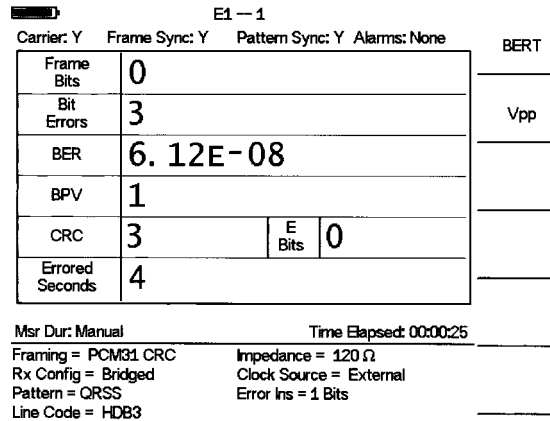

Figure 8-4. E1 BERT Measurement Display
- Step 2.** Press the Measure Duration soft key and use the Up/Down arrow key to select the duration of the measurement, and press **ENTER**. Figure 8-4 displays the E1 measurement display in raw data mode.